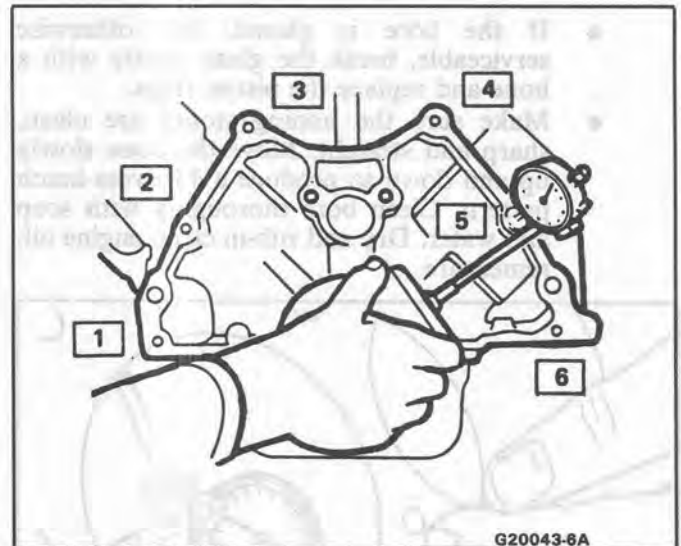

Figure 47 Measuring Transmission Mounting Surface Run Out
- Six mounting hole bosses (Figure 47)
1. Hold gage plate flat against the crankshaft flange (Figure 47).
2. Place dial indicator stem on the transmission mounting bolt hole boss (Item 1, Figure 47) and set indicator to 0.